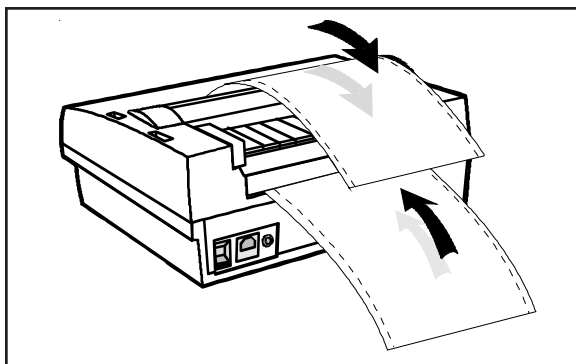

Figure 3-9. Checking the Exit Path
9. Press the Form Feed button on the control panel. The printer advances the paper to the first printable line. After printing begins, make sure the paper exits the printer over the paper support, as shown in figure 3-9.